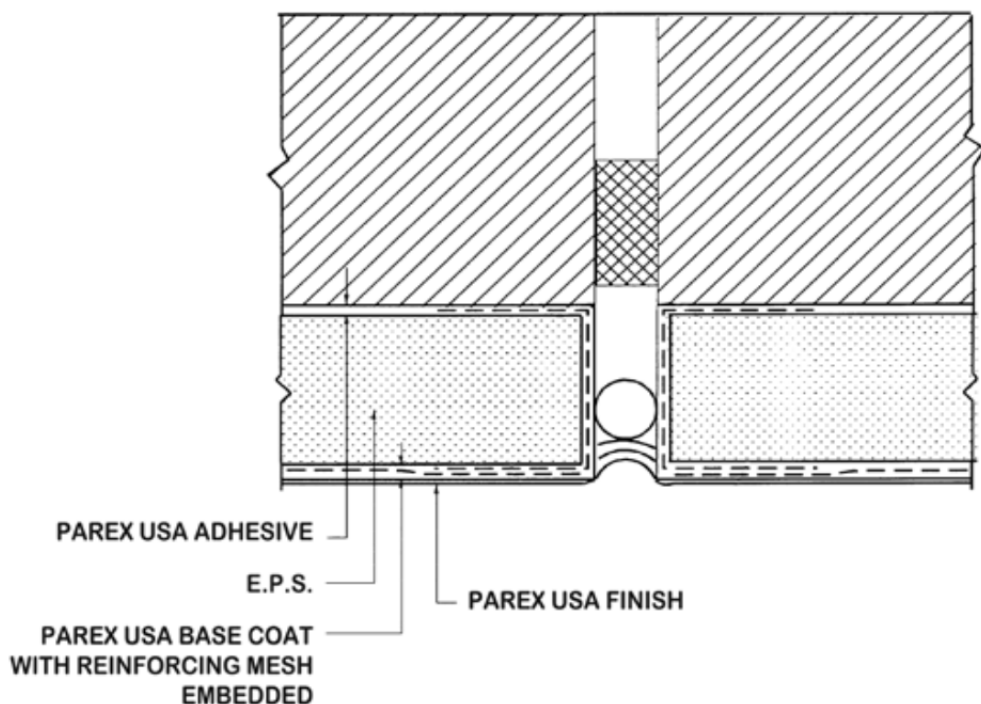

FIGURE 1
Sealants, provide two vital functions: (1) They effectively seal joints between abutting materials against the weather; and (2) they absorb thermal expansion and contraction. In general, sealant joints are constructed similar to Fig.1 below. Parex USA requires the surface of the system which will receive the sealant to be either mesh reinforced base coat or track. Do not return finish into the joints or other areas to receive sealant. Sealants are applied in strict conformance with the sealant manufacturer's recommendation.